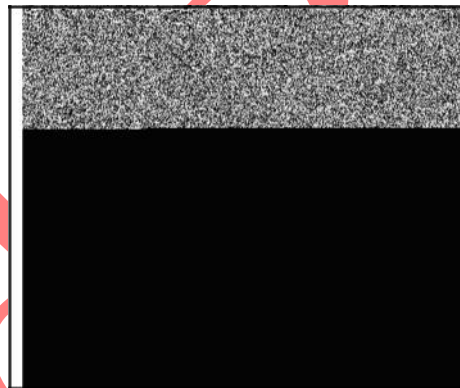

Figure 16
4. Attach RED test clip to output terminal (**A**, Figure 16).